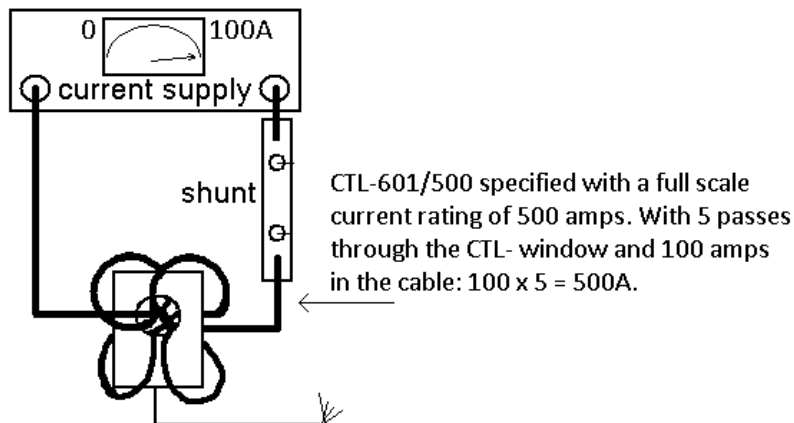

Figure 6
The available current supply may not have a full range that meets the Sensor's rated current. Running multiple turns through the sensor window (equally spaced throughout the entire window), provides an effective and accurate way to achieve full current (for both DC or AC calibration). An example of DC setup is shown in figure 6.
- * Verify the number of amp-turns through the CTL (only if running turns. Turns are not required. See figure 6). Count the number of turns in the center of the sensor window, not the outside number of turns (wraps).